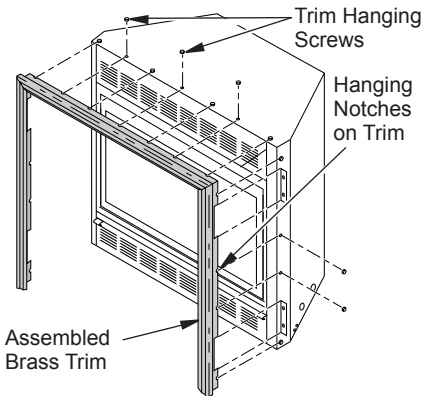

Figure 12 - Attaching Brass Trim to Fireplace
8. Tighten trim hanging screws (#10 x 6.25 shoulder) into holes in cabinets. Place the assembled trim onto fireplace cabinet. Align hanging notches on trim with hanging screws on side of fireplace (see Figure 12). Push trim firmly into place, sliding hanging notches over hanging screws.